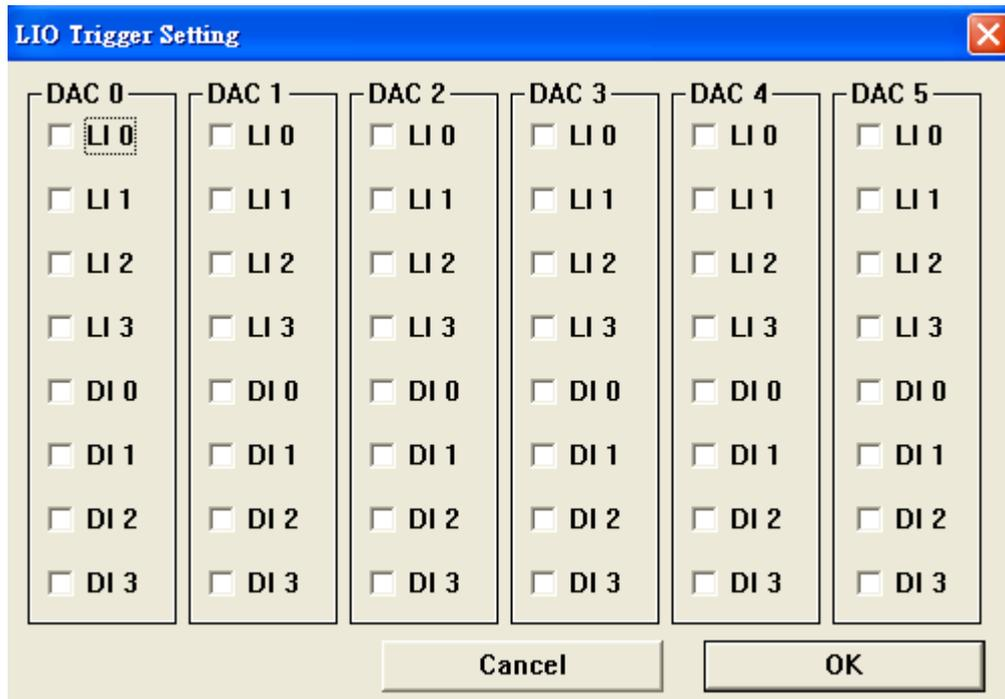

Figure 4-9.6
(5) Set LIO as DAC trigger source (as shown in Figure 4-9.6)